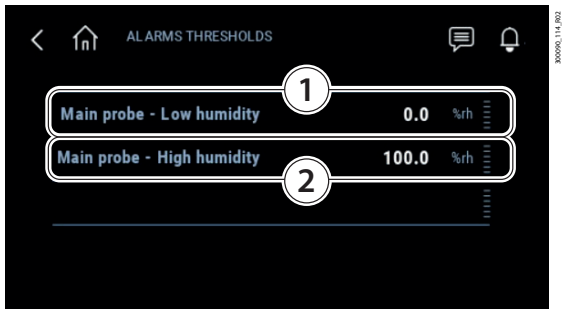

Fig. 12.c
- low relative humidity alarm threshold (1 - Fig. 12.c), for the main probe.